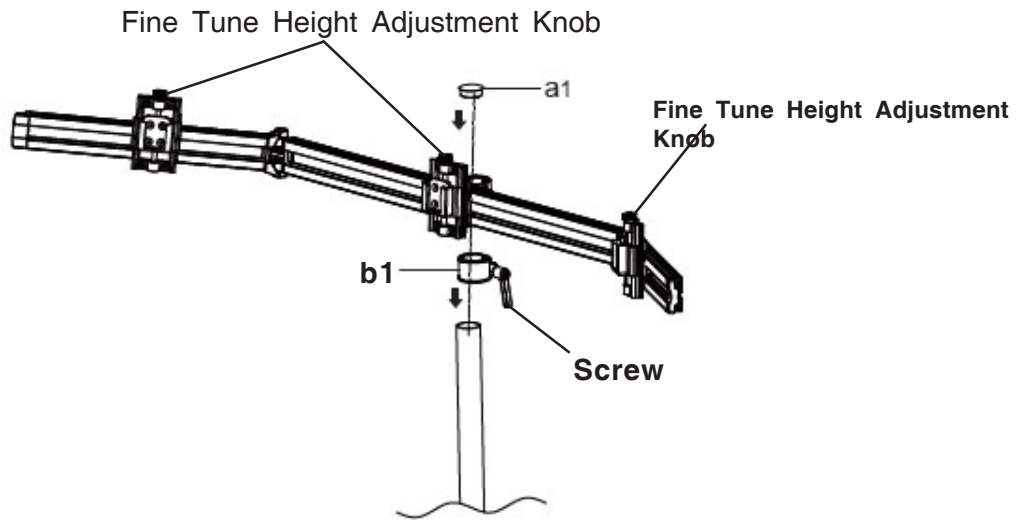

Figure 2B
2. Install the **Position Ring (b1)** onto the Tube Support at the desired height then tighten the screw to secure it. Next, slide the **Arm Assembly** onto the tube support so it rests on the position ring. Make sure the **Fine Tune Height Adjustment Knob** is facing up. Finally, install the **Plastic Cap (a1)**, see **Figure 2B**.